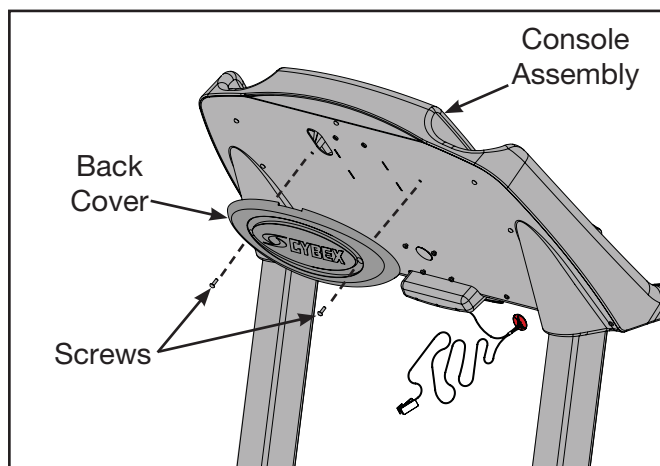

Figure 20
- A.** Using a Philips head screwdriver remove the two screws securing the back cover to the console assembly. See Figure 20.